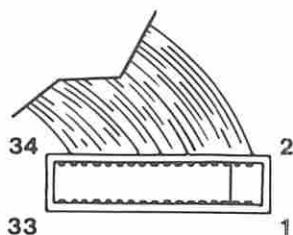

Figure 19. Signal Cable Voltage Check
- Monitor the voltage at pin 34 (diskette drive A end) of the signal cable (Figure 19).